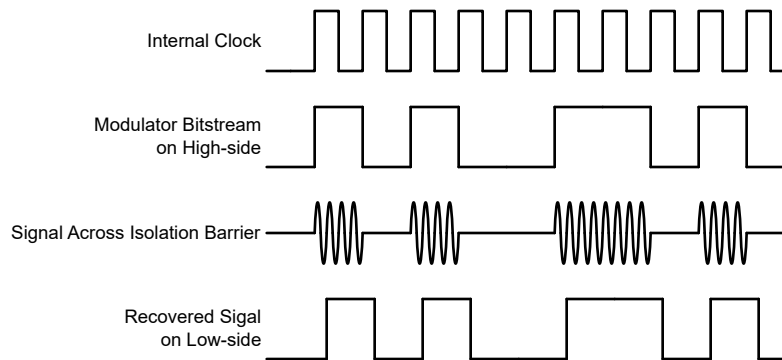

Figure 7-1. OOK-Based Modulation Scheme
The AMC1350 uses an on-off keying (OOK) modulation scheme, as shown in Figure 7-1, to transmit the modulator output bitstream across the SiO₂-based isolation barrier. The transmit driver (TX) shown in the Functional Block Diagram transmits an internally-generated, high-frequency carrier across the isolation barrier to represent a digital *one* and does not send a signal to represent a digital *zero*. The nominal frequency of the carrier used inside the AMC1350 is 480 MHz.